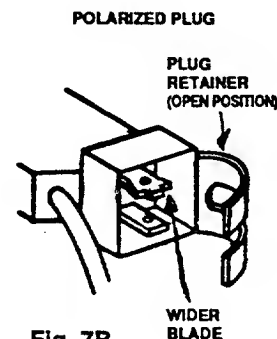

Fig. 7B
**NOTE -** Your mower is equipped with a polarized AC power plug (one blade of the plug is wider than the other), which will fit into the power extension cord connector only one way (See Fig. 7B). Should you be unable to insert the cord connector fully onto the switch box plug, try reversing the cord connector. Should the connector still fail to fit, contact your dealer for assistance. Do not defeat the safety purpose of the polarized plug.